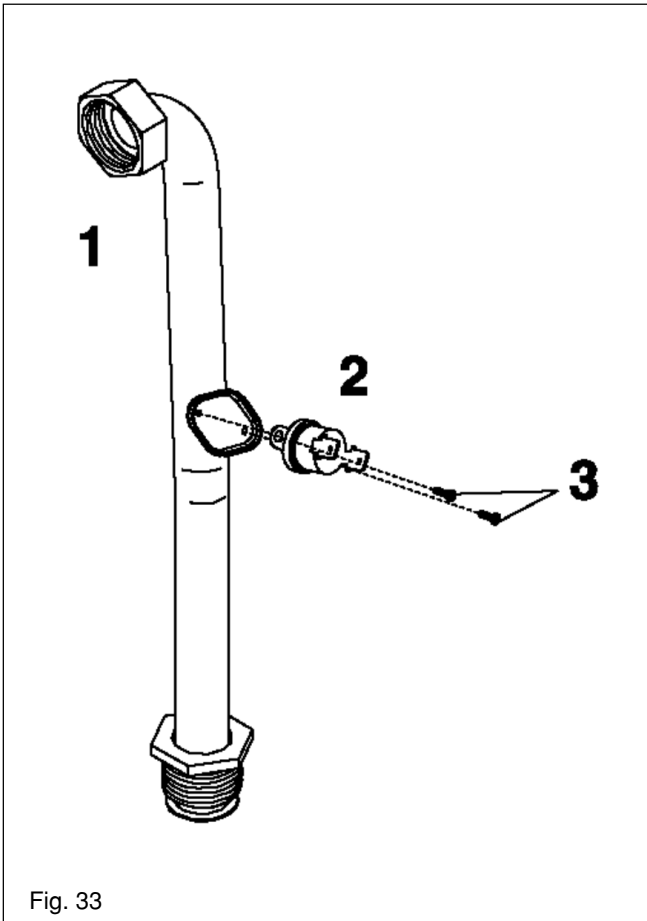

Fig. 33
6.11 HIGH LIMIT THERMOSTAT (see fig. 33)